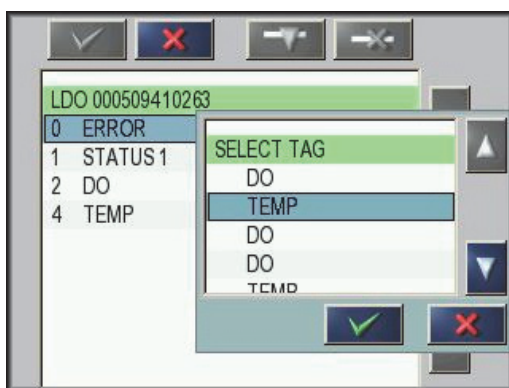

Figure 28 Tag selection window
5. Select a tag (e.g. error or status) and press the **ADD** button. The tag selection box is displayed with all tags that are available for the probe/device (Figure 28). The error and status registers are identical for all probes/devices (Table 2 and Table 3).